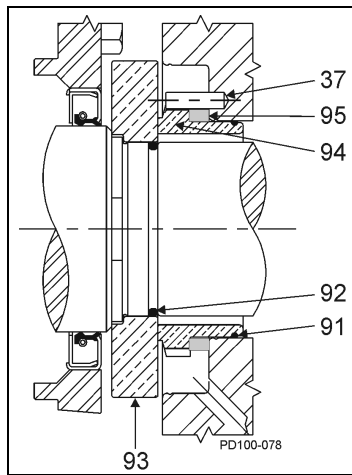

**Figure 64 - Clearance Measurements**
1. Measure rotor backface clearance (Figure 64, item A) through port or from front. **Backface clearance for both rotors must be equal to avoid crossover interference.**